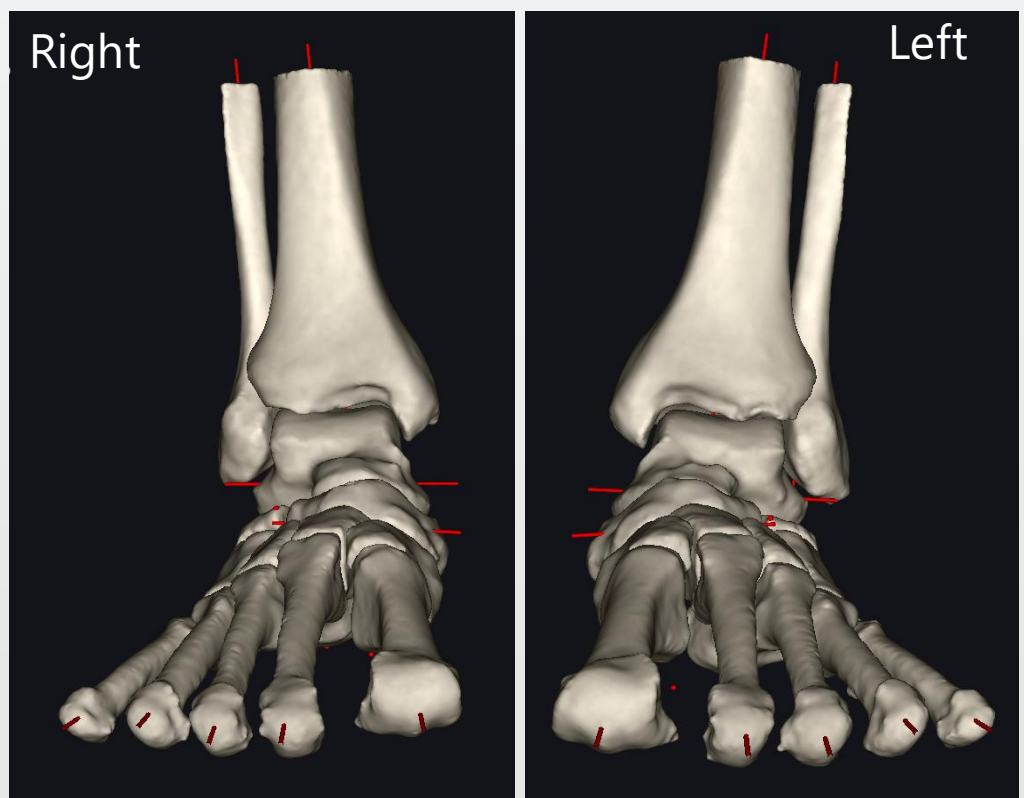

Figure 1 Patient's feet in AP view, on the left foot MT1 slipped over cuneiform.
- The accurate 3D models, revealed a very subtle but asymmetrical TMT1 arthritis on the left foot, where the metatarsal had slipped on the cuneiform (**Figure 1**).